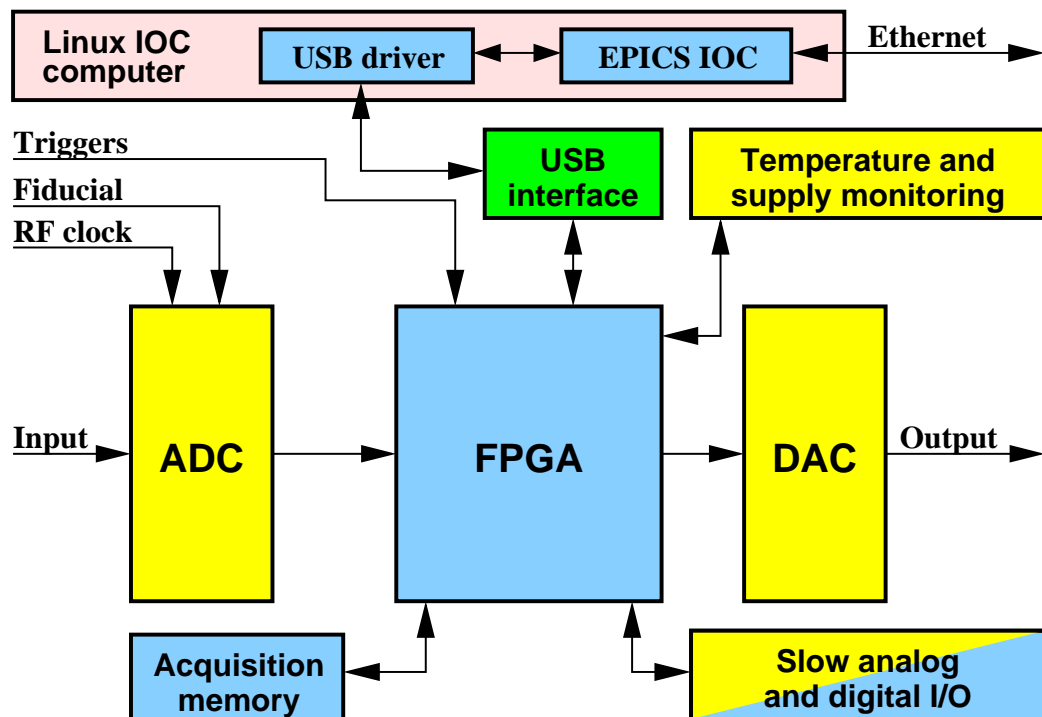

Figure 1: iGp-64F block diagram
A block diagram of the iGp-64F system is shown in Figure 1. The main signal processing chain consists of a high-speed analog-to-digital converter (ADC), a field programmable gate array (FPGA), and a high-speed DAC and is driven by the radio frequency (RF) clock. In addition to performing real-time control computations, the FPGA interfaces to a number of on-board devices, such as high-speed data acquisition memory (static random access memory (SRAM)), low-speed analog and digital input/output (I/O), as well as temperature and supply voltage monitors. In turn, the FPGA uses an internal universal serial bus (USB) connection to communicate to an embedded input-output controller (IOC) computer housed in the same chassis. The IOC runs the Linux operating system and is connected to the overall control system via the Ethernet.